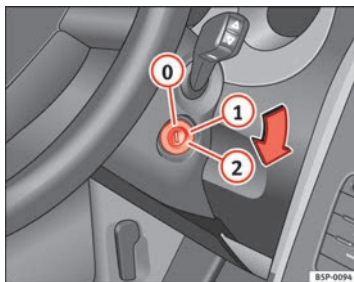

Fig. 139 Ignition key positions
In this position ⇒ fig. 139 the ignition and the engine are OFF and the steering may get locked.
- Turn the ignition key to position ⇒ fig. 139 . The indicator lamp  will light for engine pre-heating.
- Turn the ignition key to position ⇒ fig. 139 ①.